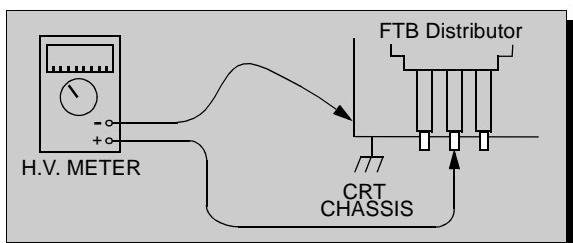

Figure 3. Measuring H.V.
3. Connect DVM (+) TPD4 and (-) TPD5 on D-Board. (See Figure 3)